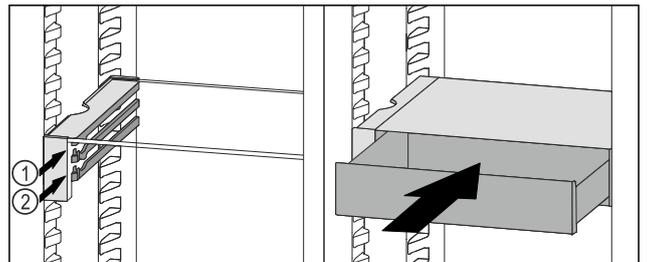

Fig. 103
- ▶ Place the VarioSafe drawer behind the stoppers on desired rib Fig. 103 (1) or Fig. 103 (2).